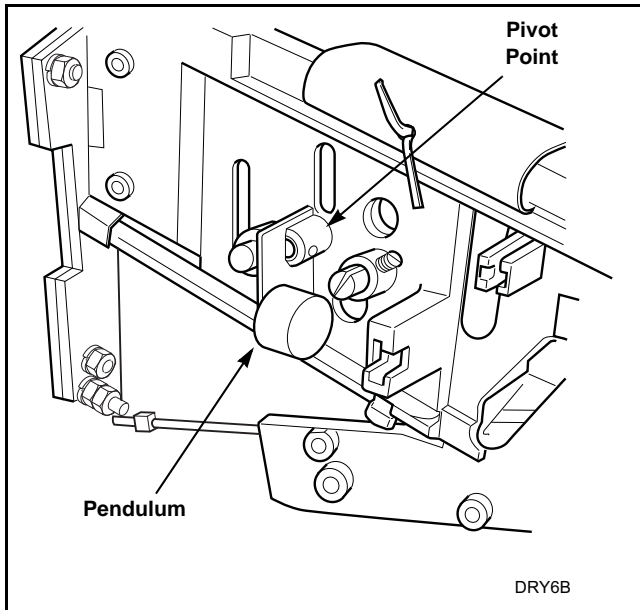

Figure 7
- Check coin return pendulum to verify it swings freely. If pendulum does not swing freely, spray pendulum pivot point with Teflon based lubricant and move pendulum back and forth two to three times. An additional application of Teflon based lubricant may be necessary to ensure that pendulum swings freely. Refer to *Figure 7*.